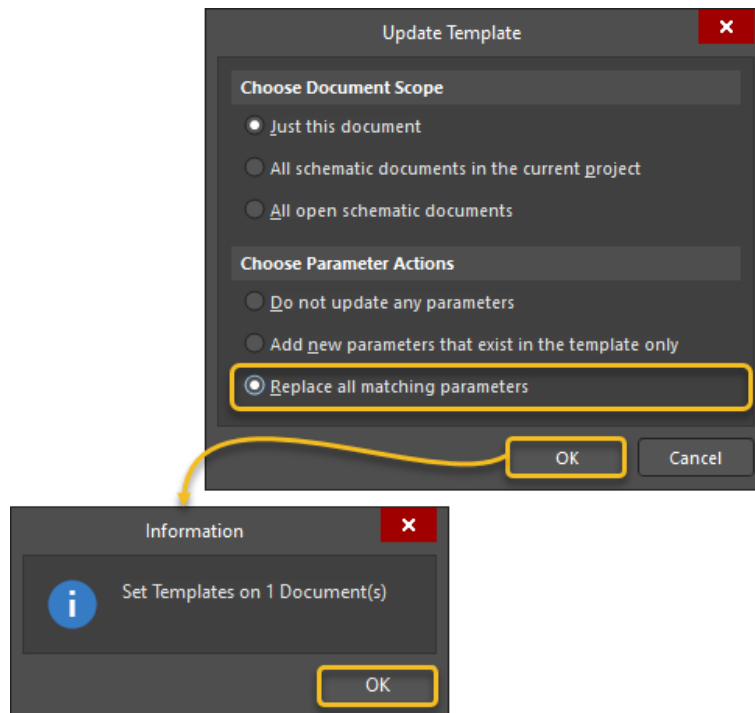

Figure 10. Updating Template settings
43. Use Figure 10 as a reference for the following steps: